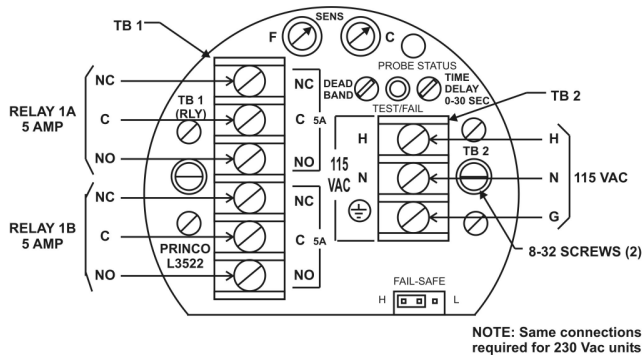
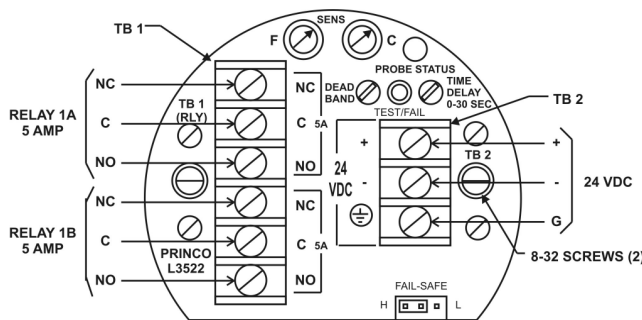

Figure 3-4
Figure 3-5
See Figures 3-4 and 3-5. See Figure 3-3 for ground continuity testing.
Connect the 115 Vac or 230 Vac power line wires: Hot (H), Neutral (N), and Ground (G) respectively, to the right terminal strip (TB2) as shown in Figure 3-4. If the unit requires 24 Vdc for power, the terminal strip TB2 is labeled as plus (+), minus (-) and ground (G). Connect 24 Vdc power accordingly as shown in Figure 3-5.
terminal strip (TB1) as shown in Figures 3-4 and 3-5, and as required by the specific circuit application.
The relay contact configuration, shown in Figures 3-4 and 3-5, and labeled on the instrument overlay panel surface, is identified as such with the relay in the de-energized (shelf) state. Fail-safe operation requires the relay to be "normally" in the energized (non-shelf) state. Upon alarm, configured as either HIGH or LOW, the relay then becomes de-energized (shelf state), as per Figure 3-4, 3-5, and TB1 labeling.